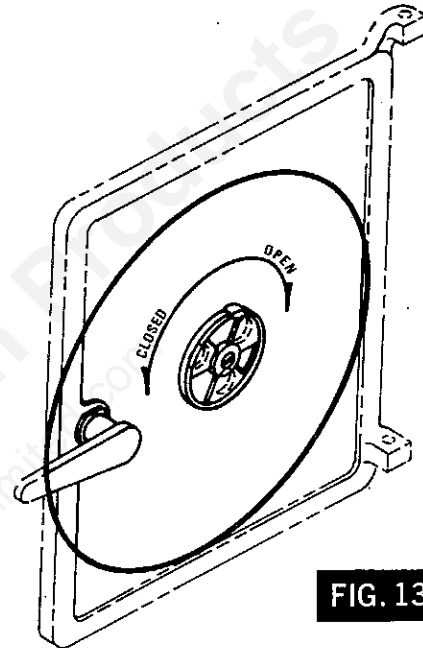

FIG. 13
- d. Adjust air shutter on feed door damper from closed to open position for better burning. (See Fig. 13).
7. Adjust air shutter on feed door damper from closed to open position for better burning. (See Fig. 13).